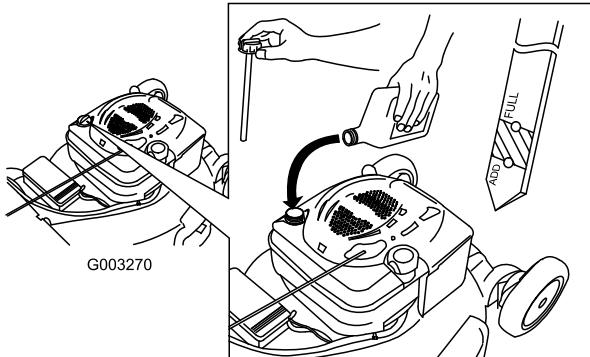

**Figure 37**
7. Tip the machine onto its side, with the oil-fill tube down, to drain the used oil out through the oil-fill tube into the oil-drain pan (Figure 37).